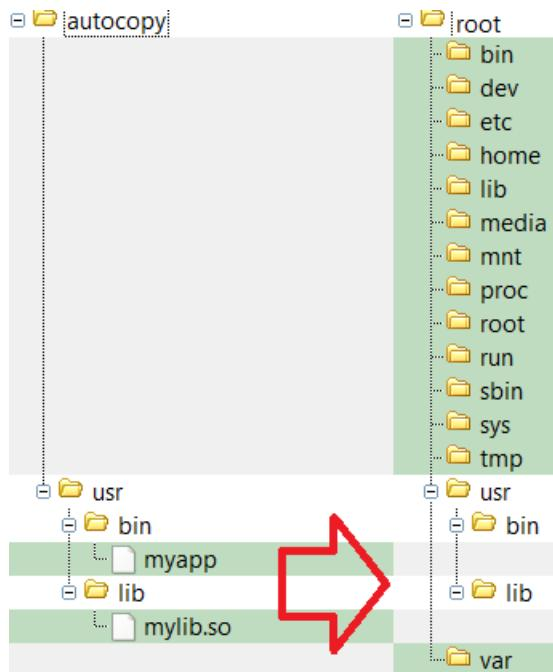

Figure 4: Automatic transfer process from storage medium (left hand) to the targets root file system (right hand) after plugging the storage
▶ [Figure 4] illustrates what happens in background. The files are properly transferred to the target.